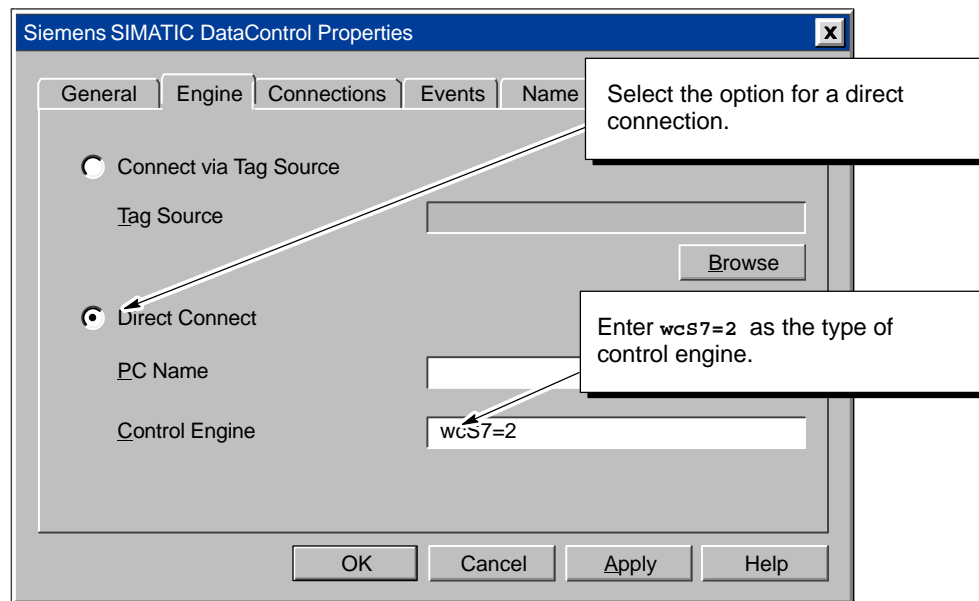

Figure 1-14 Connecting to the Control Engine (Label Control Example)
1. In the Data Control dialog box, select the Engine tab to configure the control engine. See Figure 1-14.